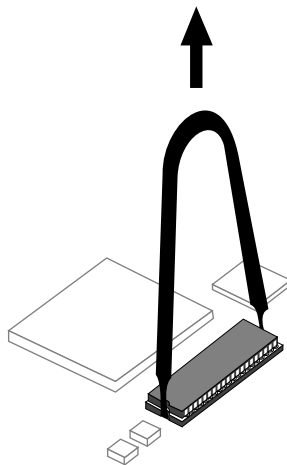

Figure 2 Removing the PROM Chip
- Insert the chip removal tool between the PROM chip and the socket on the board, as shown in Figure 2. Work the chip away from the socket in a rocking motion, pulling up on one side of the chip and then on the other side. It may be difficult to loosen.